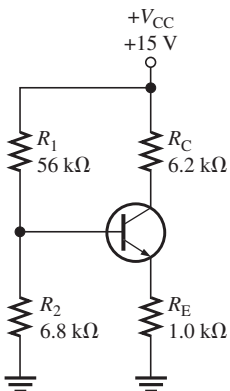

FIGURE 3-71
13. For the voltage-divider biased circuit in Figure 3-71, determine I_C and V_{CE} .